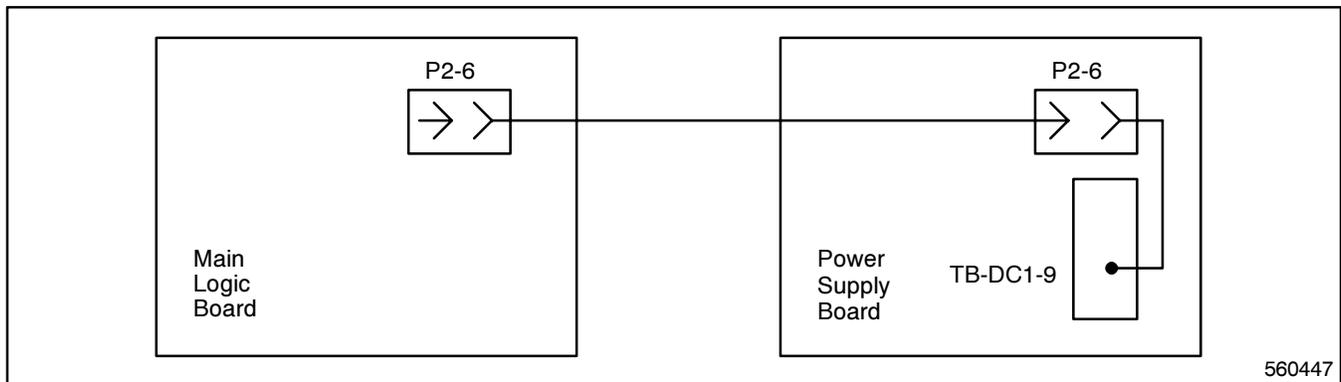

Figure 4-7. Wiring Diagram—System-status, not-in-automatic LED
- b. Connect TB-DC1-9 to TB-DC1-34. If the System-Status, Not-In-Automatic LED is not flashing, connect P2-6 to TB-DC1-34. If the System-Status, Not-In-Automatic LED is now flashing, replace the power supply board. If the System-Status, Not-In-Automatic LED is not flashing when P2-6 is grounded, perform step 4. See Appendix B, Figure B-9 for the location of the P2 ribbon cable and other power supply board components referred to in this section. See Appendix B, Figure B-6 for the location and description of P2 ribbon cable pins. See Figure 4-7 for the System-Status, Not-In-Automatic LED wiring diagram.